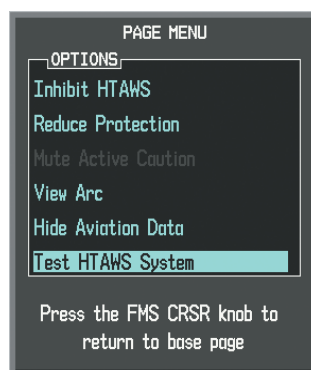

Figure 6-83 HTAWS Page Menu
- 2) Press the **MENU** Key to display the Page Menu (Figure 6-83).